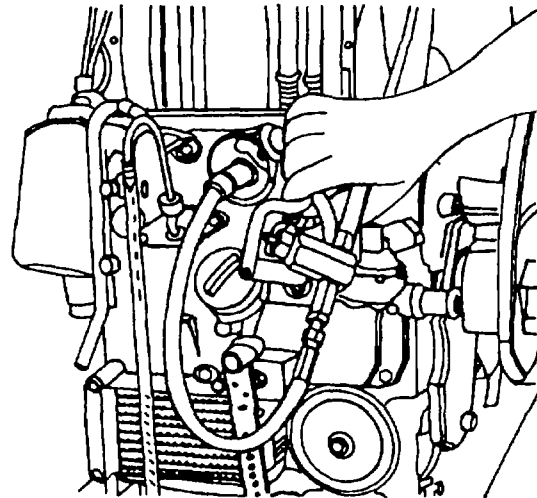

Figure 4-41. Pump HP Hand Pump
7. Pump HP hand pump until fuel is in a steady stream from the No. 1 pump (figure 4-41).